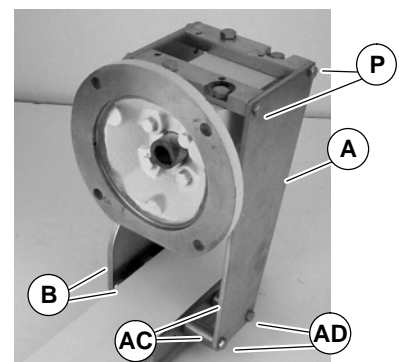

Figure 5
**NOTE:** 102mm and wider mounting assembly shown. 51mm and 76mm wide mounting assemblies include two spacer tubes (AC of Figure 5) and two long M6 screws (AD).
4b. For 51mm and 76mm wide conveyors, loosen (but do not remove) screws (P of Figure 5). Attach top mount assembly (A) to conveyor with two screws (B), spacer tubes (AC) and screws (AD). Tighten screws (B), (AD) and (P) to 10.4 Nm.